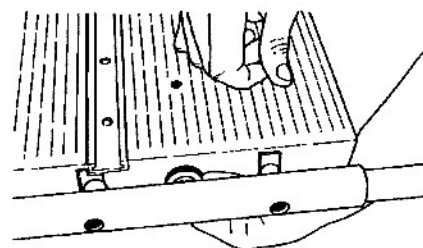

Fig. A-24
25. Place the fixed extension table between the fence tubes. Insert the thumb screws in the middle hole between the two screw holes, as shown in Fig. A-24. If needed, slightly screw out each thumb screw to help hold the table extension between the tubes.